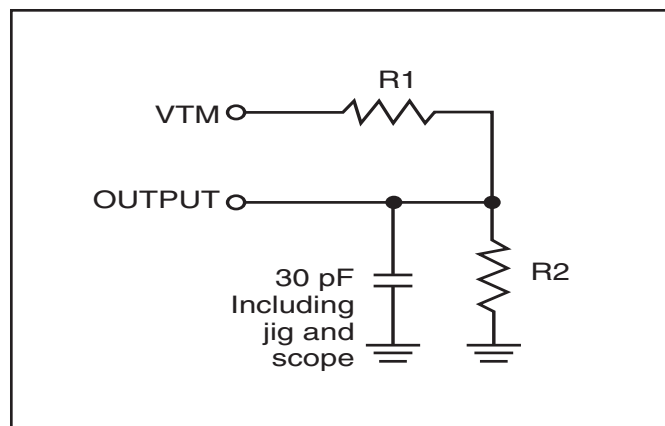

Figure 1
1. Test conditions assume signal transition times of 5 ns or less, timing reference levels of 0.9V/1.5V, input pulse levels of 0.4 to $V_{DD}-0.2V/0.4V$ to $V_{DD}-0.3V$ and output loading specified in Figure 1.
1. Test conditions assume signal transition times of 5 ns or less, timing reference levels of 0.9V/1.5V, input pulse levels of 0.4 to V_{DD}-0.2V/0.4V to V_{DD}-0.3V and output loading specified in Figure 1.